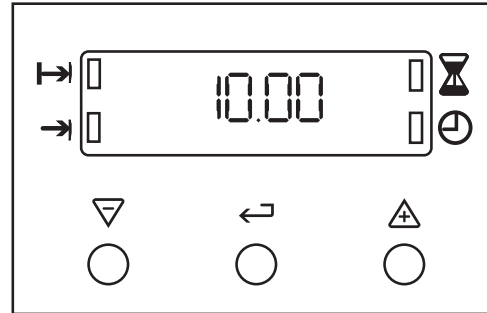

Fig.9.
- Ensure the electricity supply is switched ON and that the correct time of day is displayed, e.g. 10.00am as Fig. 9.